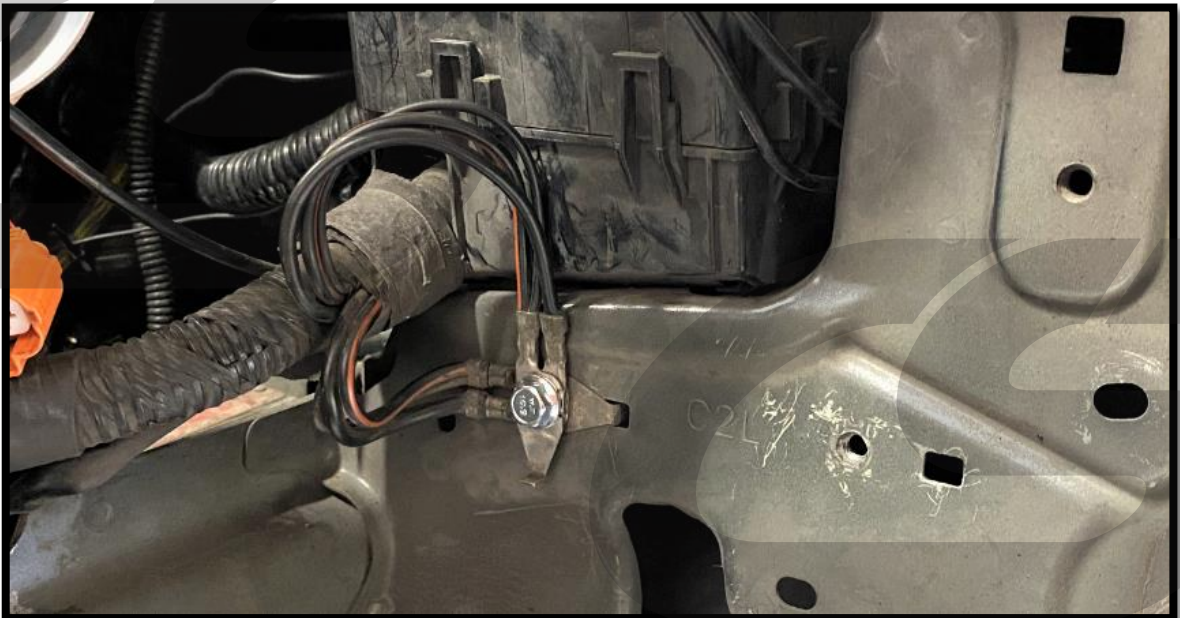

Figure 3e
- h) Flip the right side ground wire over and line it up with the other ground wire hole as shown in **Figure 3e**.
- i) Secure both ground wires in the left side hole with one of the 10mm bolts removed earlier as shown in **Figure 3e**.